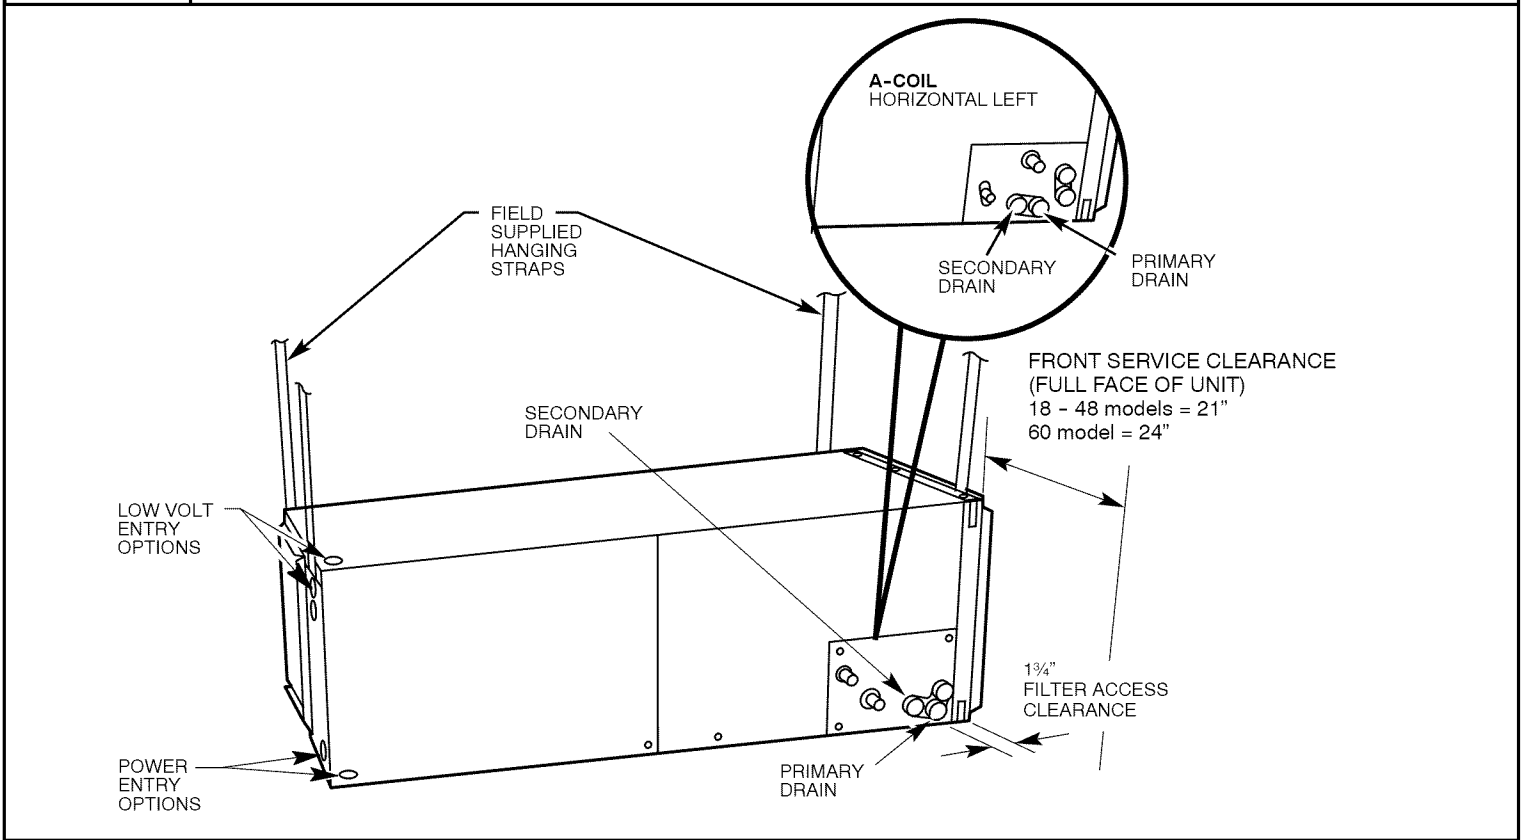

Figure 4
1. Remove blower and coil access panel and fitting panel. (Refer to **Figure 4**)
4. Lay fan coil unit on its right side and reinstall coil assembly with condensate pan down. (Refer to **Figure 4**)